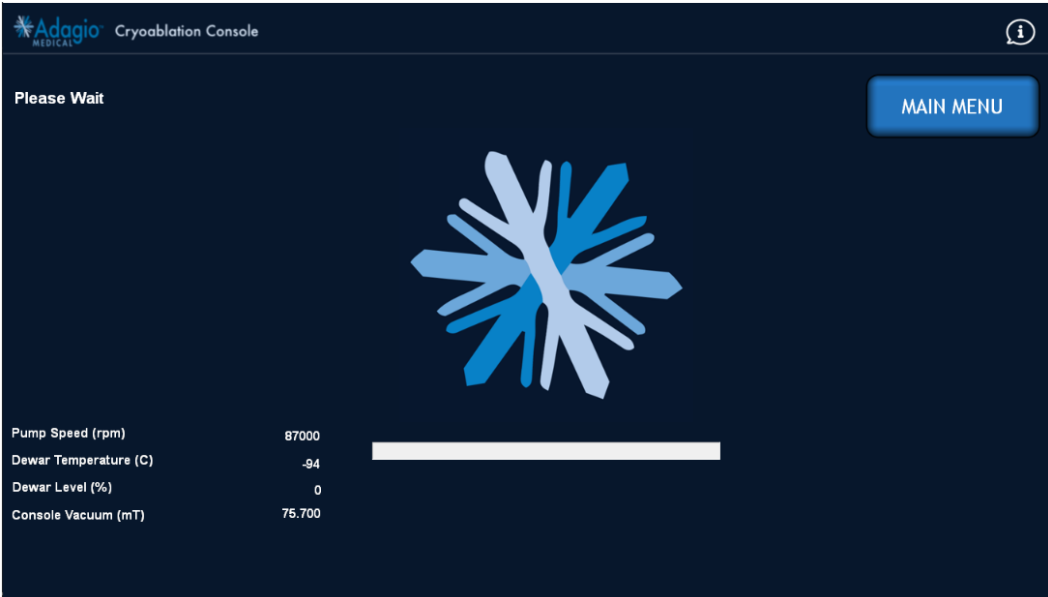

Figure 75 –Console Purge In-progress Screen Image
6. To refill LN2, from Figure 72 screen, press “REFILL” to fill liquid nitrogen tank. The console will start purging as needed, to remove any warm LN2 from the reservoir (Figure 75).